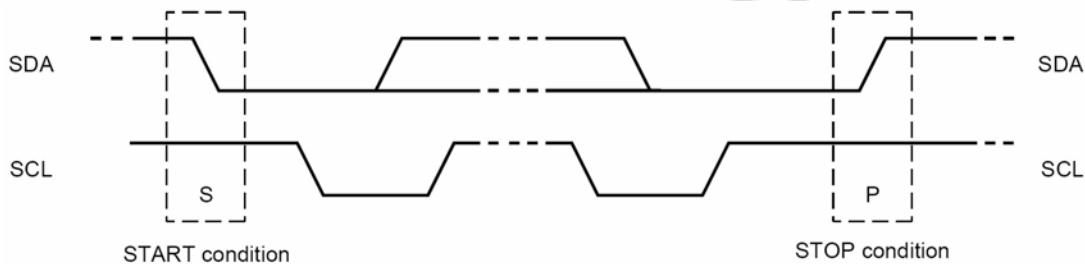

Fig 7 START and STOP conditions on the I2C-bus
Both data and clock lines remain HIGH when the bus is not busy. A HIGH-to-LOW transition of the data line, while the clock is HIGH is defined as the start condition (S). A LOW-to-HIGH transition of the data line while the clock is HIGH is defined as the stop condition (P); see Fig 7.